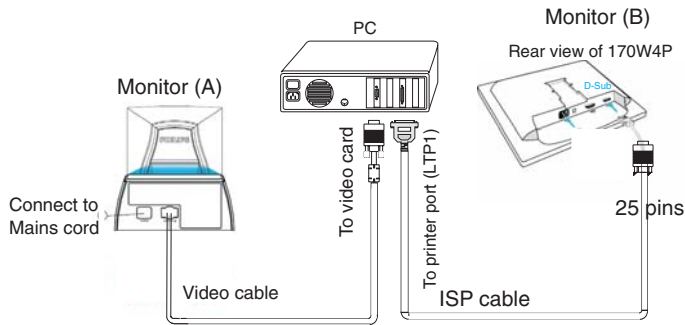

Fig. 9
Step 6 : Disconnect mains cord between Electrical outlet (power source) and Monitor (B) at this moment as shown in Fig. 9.